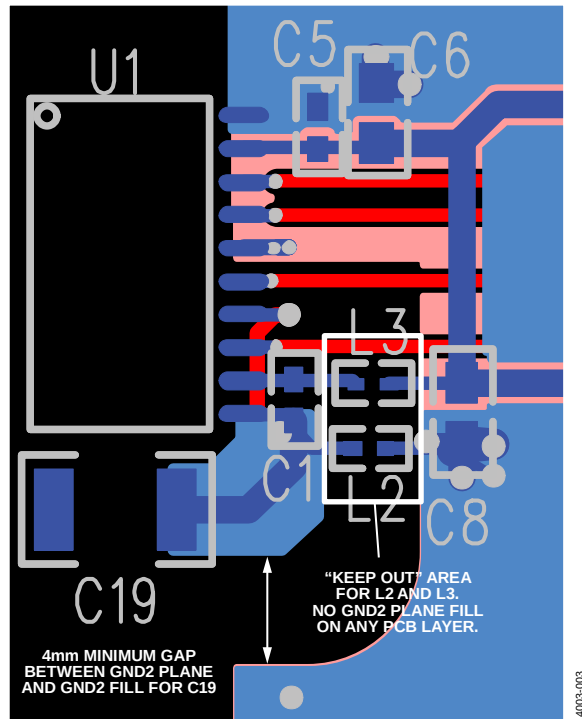

Figure 3. Layout Notes for EVAL-ADM2582EEMIZ and EVAL-ADM2587EEMIZ
- Do not connect the  $V_{ISOOUT}$  pin to a power plane; connect between  $V_{ISOOUT}$  and  $V_{ISOIN}$  using a PCB trace. Ensure  $V_{ISOIN}$  (Pin 19) is connected through the L3 ferrite to  $V_{ISOOUT}$  (Pin 12) as shown in Figure 3.
- Ensure  $GND_2$  (Pin 16) is connected to  $GND_2$  (Pin 11) on the outside (bus side) of the L2 ferrite as shown in Figure 3.